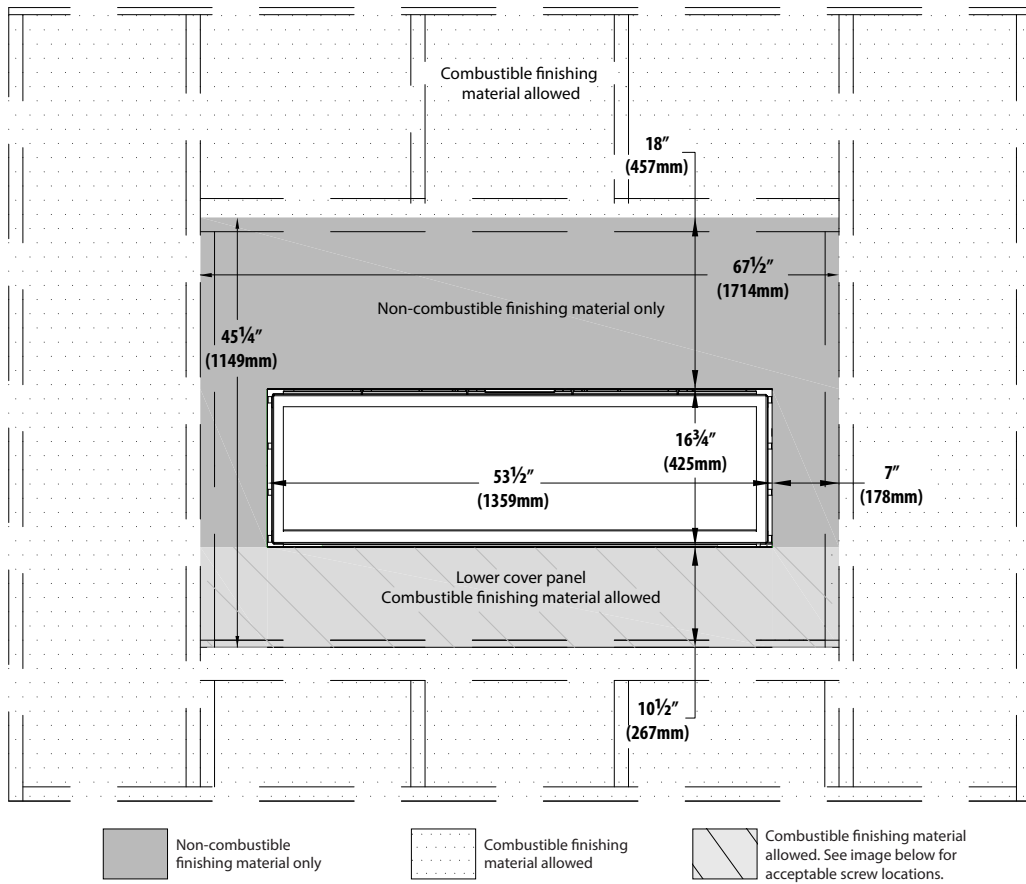
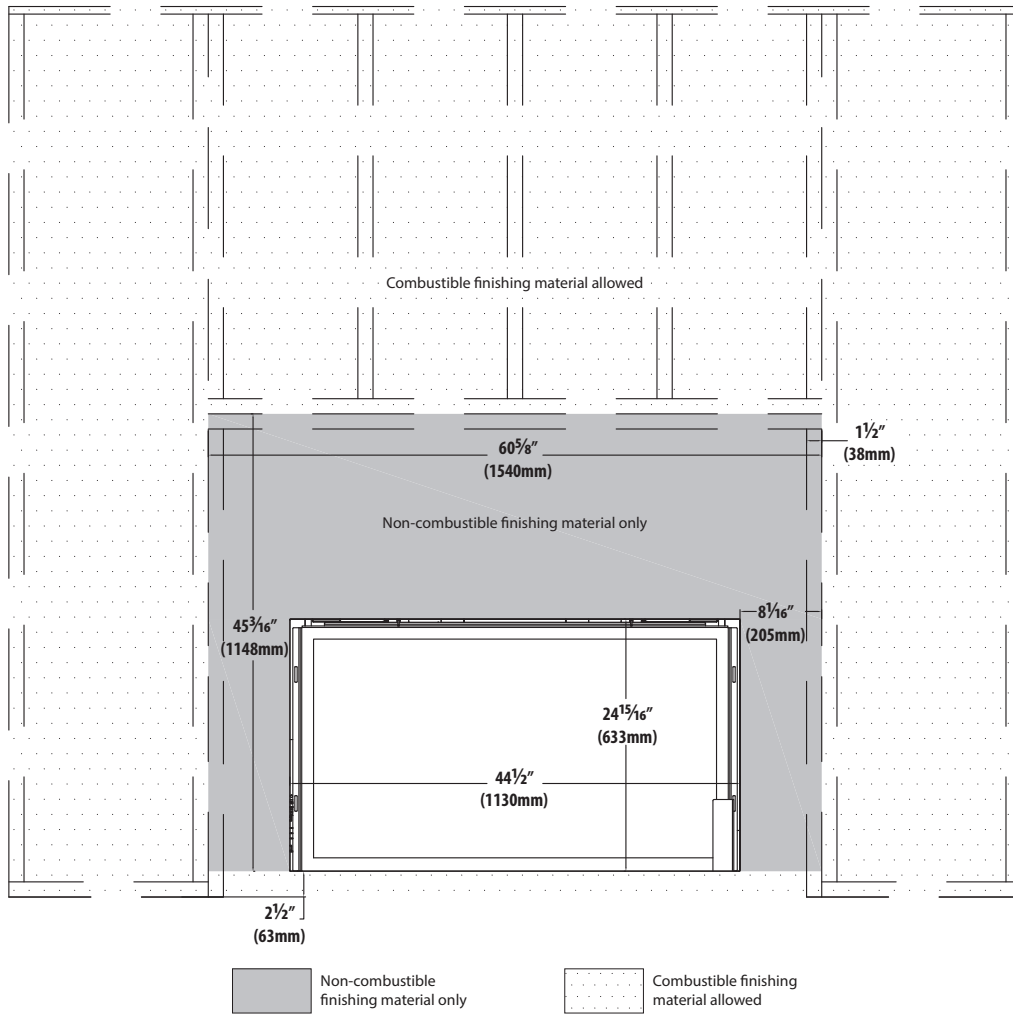
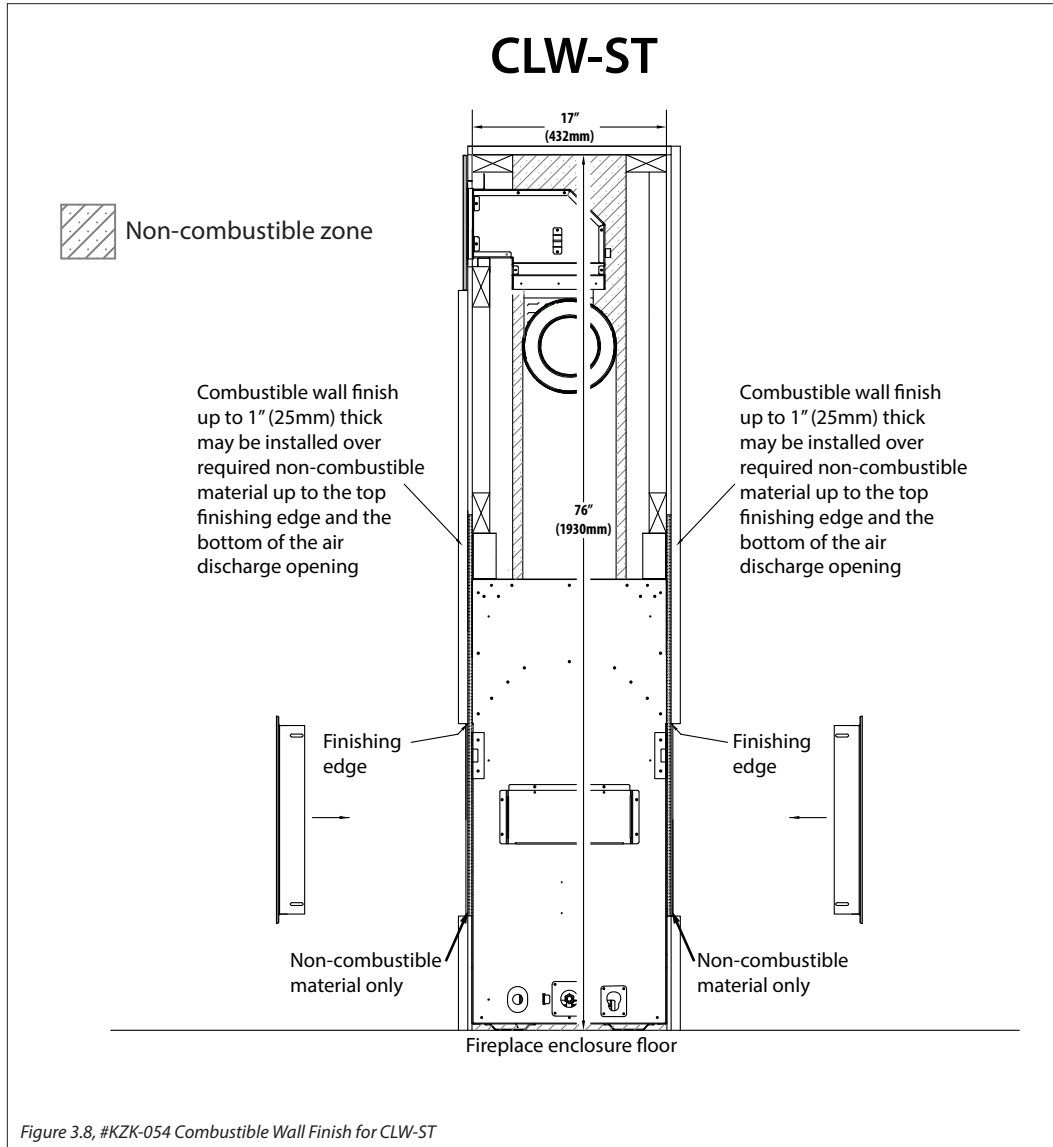
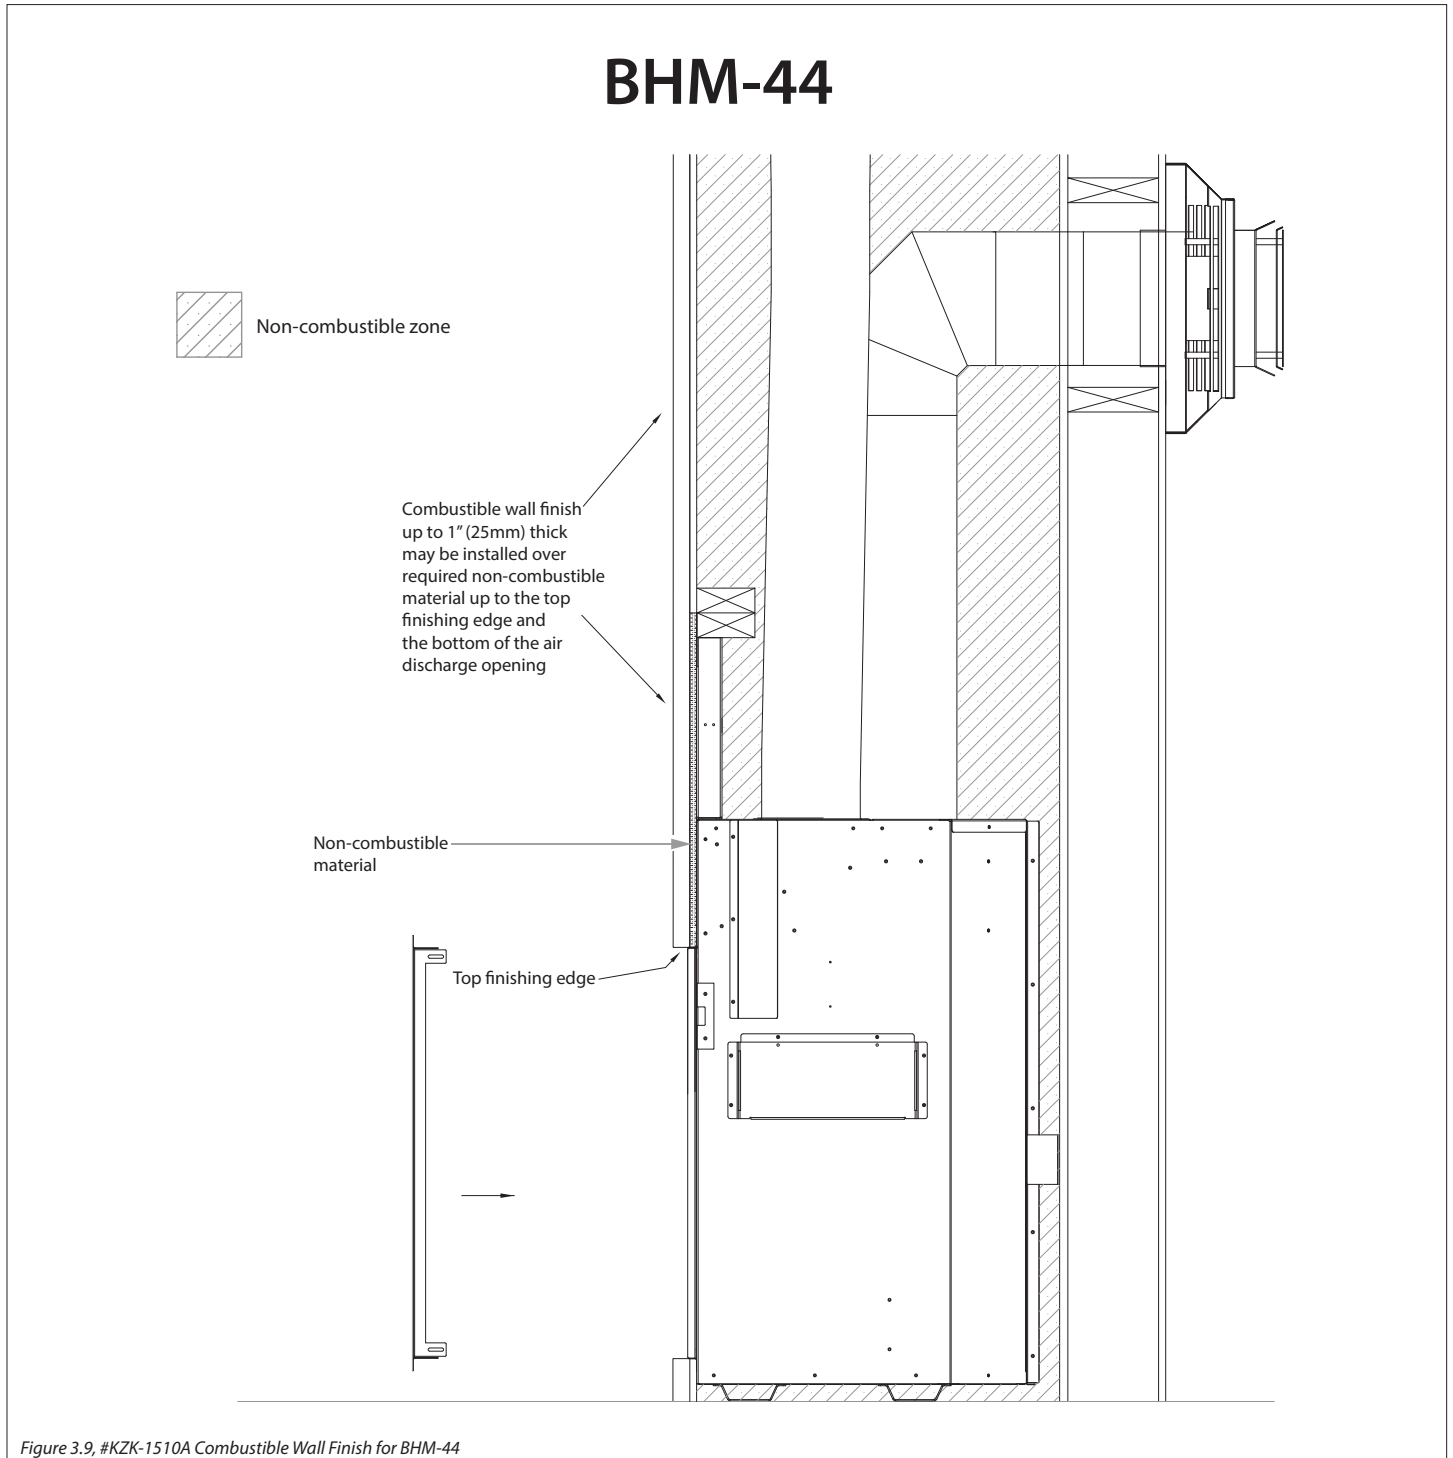

Figure 3.3, CLW-ST Minimum Non-combustible Finishing Dimensions
Figure 3.5, BHM-44 Minimum Non-combustible Finishing Dimensions
Figure 3.8, #KZK-054 Combustible Wall Finish for CLW-ST
Figure 3.9, #KZK-1510A Combustible Wall Finish for BHM-44
1" (25mm) combustible material goes on top of any required non-combustible material required on the fireplace as shown in Figures 3.1 and 3.2 on page 17 for CLW-50, Figures 3.3 and 3.4 on page 18 for CLW-ST, and Figure 3.5 on page 19 for BHM-44.
- Figure 3.8 shows installation of combustible wall finish up to 1" thick. This combustible material goes over any required non-combustible materials as shown in Figure 3.3 on page 18.
- Figure 3.9 shows installation of combustible wall finish up to 1" thick. This combustible material goes over any required non-combustible materials as shown in Figure 3.5 on page 19.